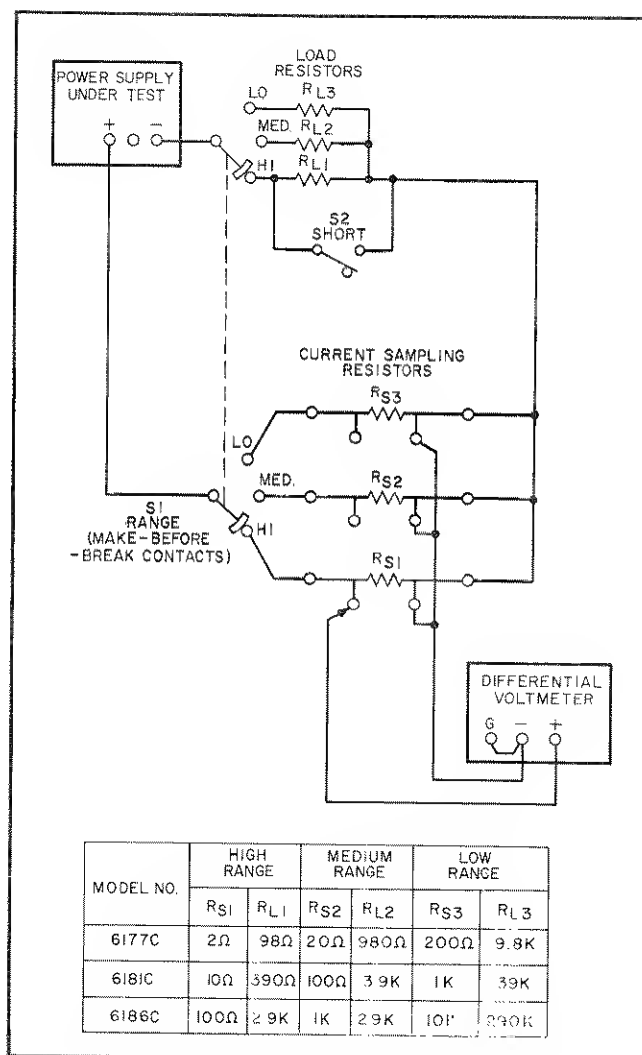

Figure 5-3. Output Current Test Setup
5-9 The monitoring device should be connected across the current sampling resistors as shown in Figure 5-3. As indicated in this illustration, neither output terminal of the power supply is grounded and the measuring device case is connected to the junction of the load and sampling resistors. This arrangement prevents ground loop paths and minimizes shunt current paths. The external range switch must have a high insulation resistance (100000M Ω or greater) to avoid significant leakage that would degrade the performance of the supply
a. Connect test setup shown in Figure 5-3, leaving switch S2 open throughout test.
a. Connect test setup shown in Figure 5-3, except connect differential voltmeter between +METER and (-) output terminals or between A0 and (-) output terminals (see Figure 3-7). Leave switch S2 open throughout test.
- Connect test setup shown in Figure 5-3.
a. Connect test setup shown in Figure 5-3. In addition, connect variable autotransformer between input power source and power supply power input.
a. Connect test setup shown in Figure 5-3, substituting true rms ac voltmeter for differential voltmeter (neither terminal grounded) and connecting positive terminal of supply to ground.
- Connect test setup shown in Figure 5-3. Strip chart recorder can be substituted for differential voltmeter to obtain permanent record.